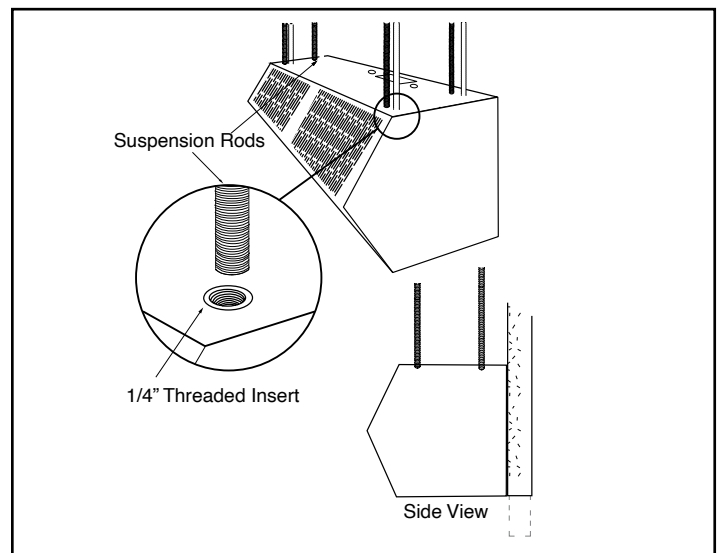

FIGURE 8 - Suspended Mounting
- For top mounting using suspension rods, four (4) factory installed 1/4" threaded inserts are located in the top of the air curtain. **See Figure 8.**